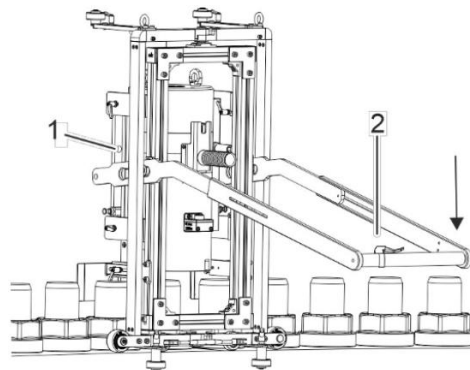

Fig. 29: Lifting the tensioner
- ⇒ The locking bolts (Fig. 29/1) on the sides of the lifting device engage as soon as the specified height for transportation is reached.
4. → Operate the lever handle (Fig. 29/2) to release the locking bolts. To do this, push the lever upwards and lower the tensioner or the bolting device onto the bolted joint.